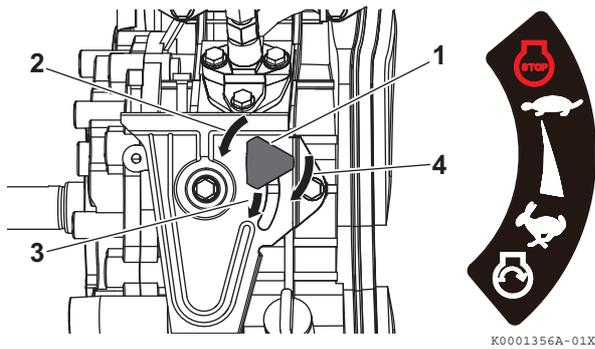

Figure 5
3. If your engine speed control is similar to **Figure 5**:
- (a) Turn the engine speed control knob (**Figure 5, (1)**) to the left (**Figure 5, (2)**).
- (b) Slide the engine speed control knob to the START position (**Figure 5, (3)**).
- (c) Turn the engine speed control knob to the right (**Figure 5, (4)**) to tighten it.